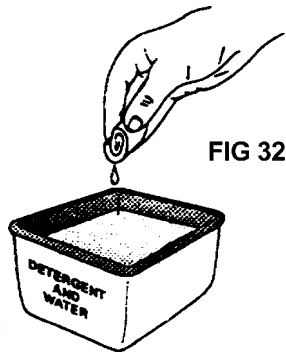

FIG 32
3. Wash the filter in detergent and water (Fig. 32). Rinse the filter thoroughly and allow it to dry.